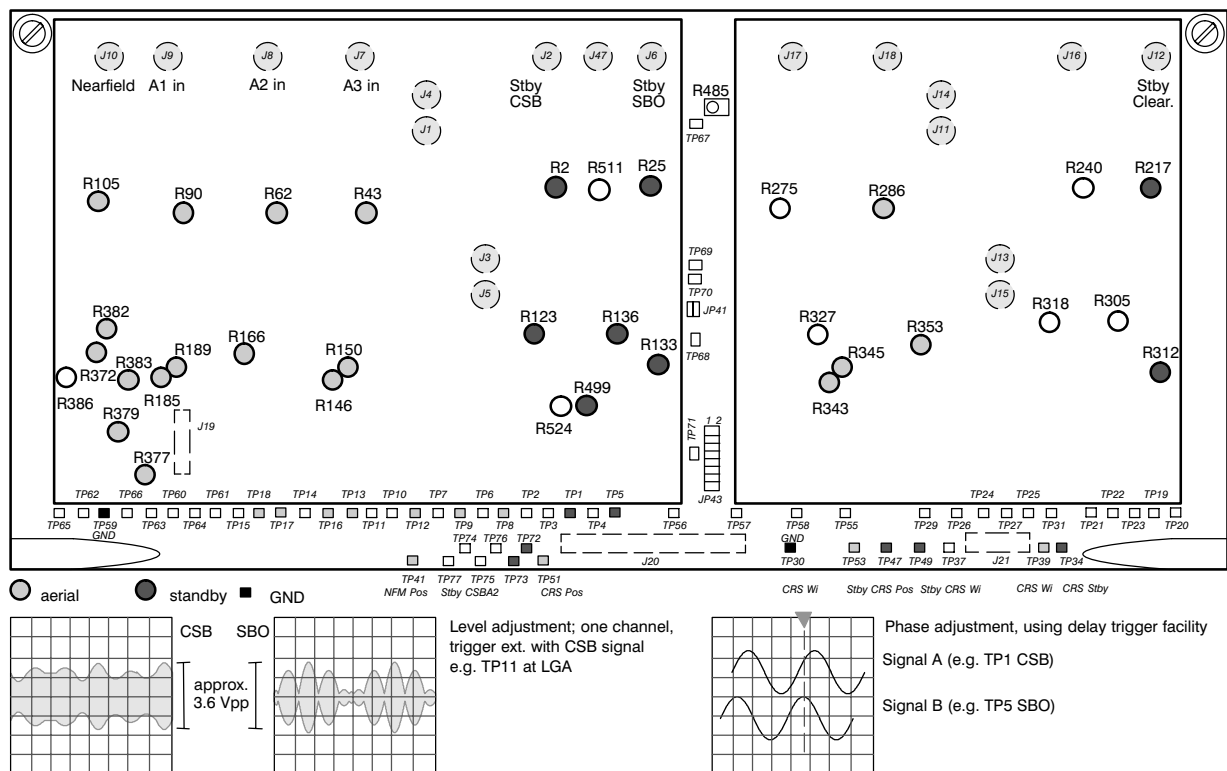

Fig. 7–2 Adjustment controls and test points of SOAC
d) Adjust with e.g. phasing cables, phase plugs or with mechanical Phase Shifter Z3 (Fig. 7–1) so that the DDM instrument indicates DDM 0 at the middle marker.
See Figs. 7–2 to 7–6.
- 1) The RF input signal of each path on the SOAC is down converted to an 8 kHz IF signal. This signal has to be adjusted to an output signal of approx. 3.6 Vpp. The 8 kHz IF amplitudes are measured with an oscilloscope at the corresponding test points. Coarse adjustment of the input level is performed with attenuators which are inserted or bypassed with the corresponding jumpers (see section 6.6.5), if need be. Figs. 7–3, 7–5 show the signal path, the potentiometers and the corresponding testpoints of each channel on the SOAC. Recommendation: Use a special alignment screw driver with immersed blade for the potentiometers. If need be, e.g. phase cannot be adjusted, insert phase adapters or cables to the concerned input.